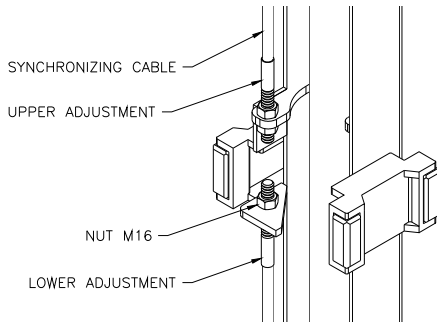

Fig. 6 – Synchronizing Cables
- 16) Attach one end of synchronizing cable to carriage. See **Fig 6** for proper attachment.
- 17) Route cable up and over sheave in overhead. Follow across to other sheave on opposite column. Route down through carriage to sheave in bottom of column. Route under sheave and up to cable attachment. Use **Fig 6** for proper attachment.